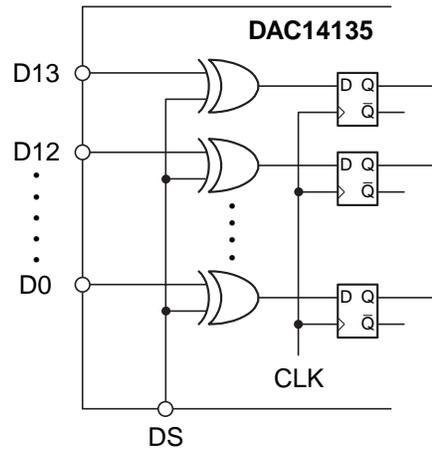

Figure 2: Digital Data Inputs with DS Input Pin
The DAC14135 is equipped with a data scramble input pin (DS) that may be used to troubleshoot possible spurious or harmonic distortion degradation due to digital data feedthrough on the printed circuit board. In the DAC14135, the digital data inputs are logically XORed with the DS input pin as shown in Figure 2.